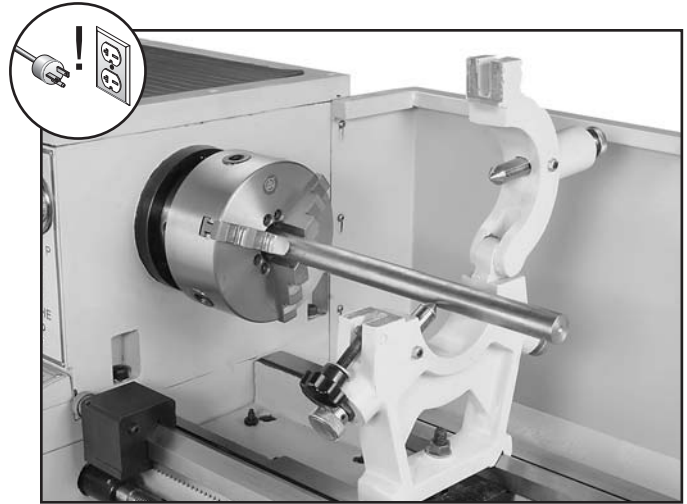

Figure 47. Workpiece mounted in the steady rest.
4. Loosen the star lock knob and open the steady rest so the workpiece can rest on the bottom two fingers (see **Figure 47** for an example).